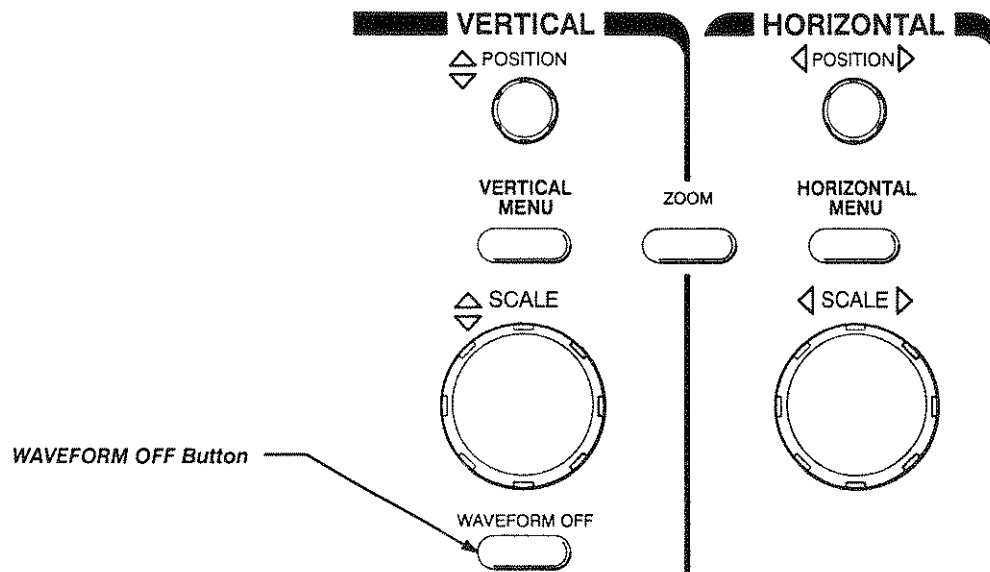

Figure 1-15: WAVEFORM OFF Button Location
4. Press the **WAVEFORM OFF** button (see Figure 1-15).